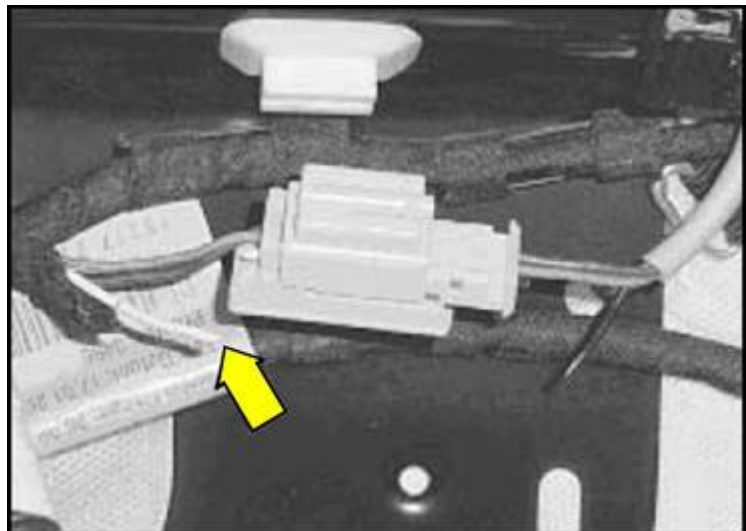

Figure 3. Igniter wire 1 on seat harness side.
5. Cut igniter wire 1 (on seat harness side) next to airbag connector (Figure 3).